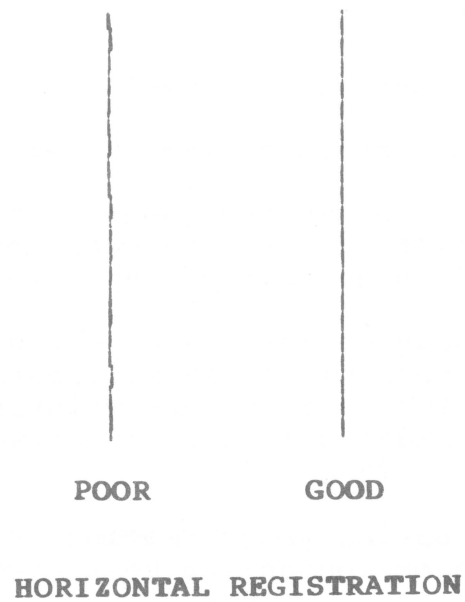

Figure 4
4. Test the adjustment by printing a sample file that includes straight vertical lines. (See Figure 4 for samples of good and poor horizontal registration.) If the lines are not straight (except at the left margin), readjust the belt tension until they are.